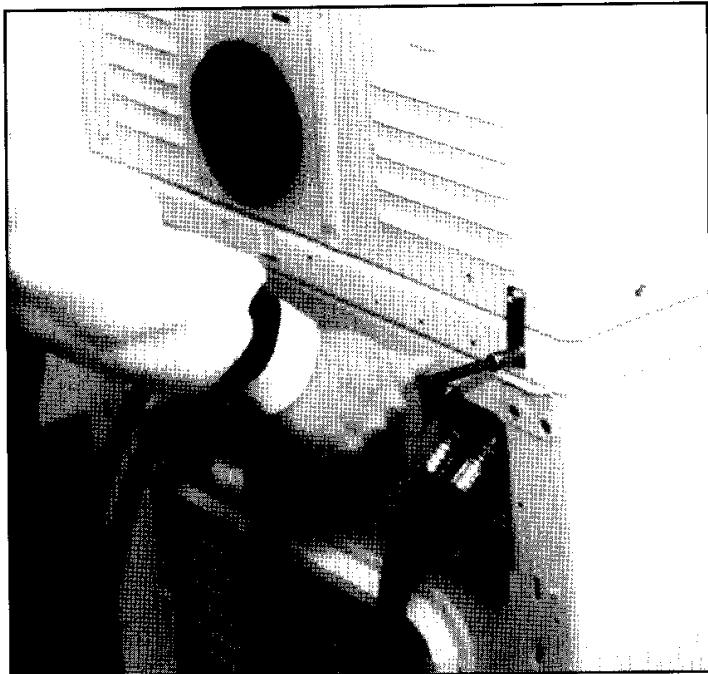

Figure 56
Secure the other ends of the security brackets (2) to the support using #10 hex head screws provided in the miscellaneous parts package. (See *figure 56*.)